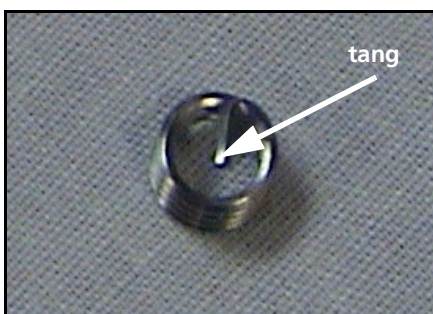

Figure 6: HeliCoil
4. On the HeliCoil you are about to install, locate the piece known as the tang. (See *Figure 6*).